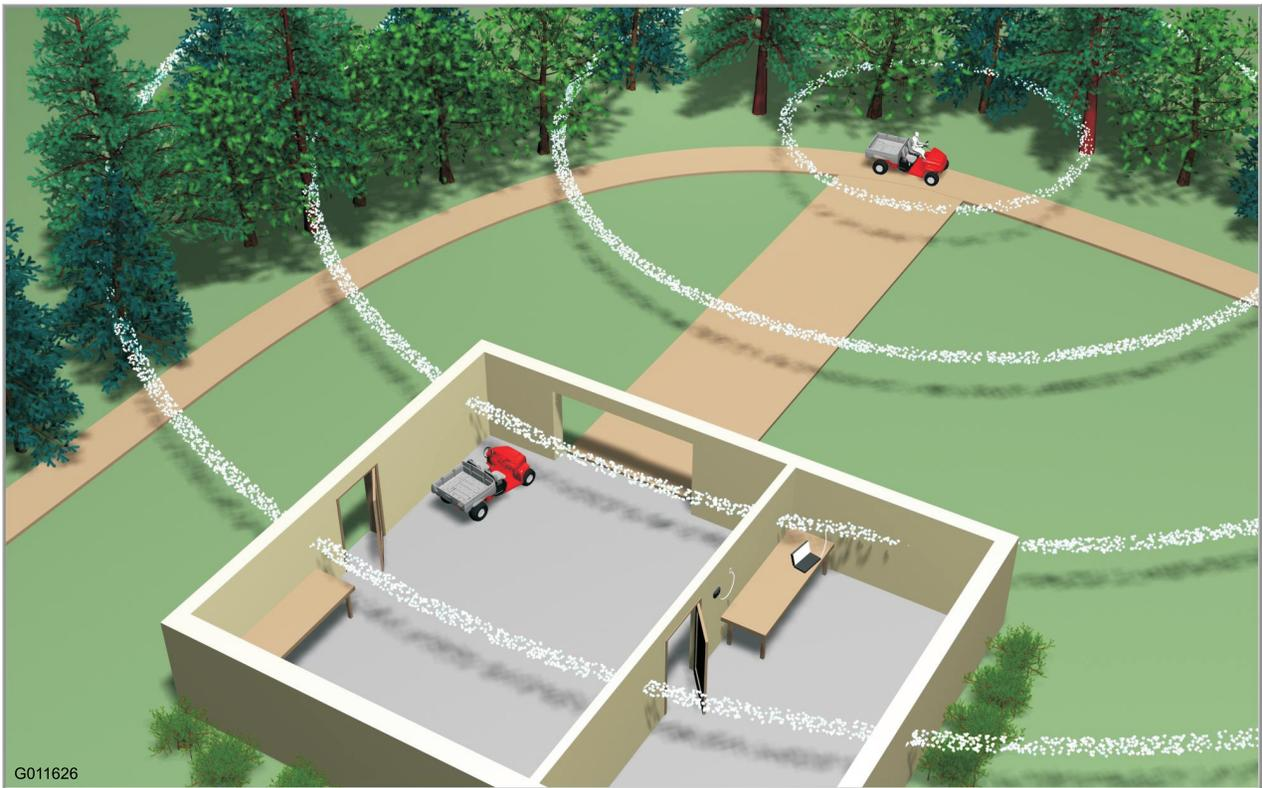

Figure 3
- Refer to Figure 3 and Figure 4 for examples of BaseStation placement.